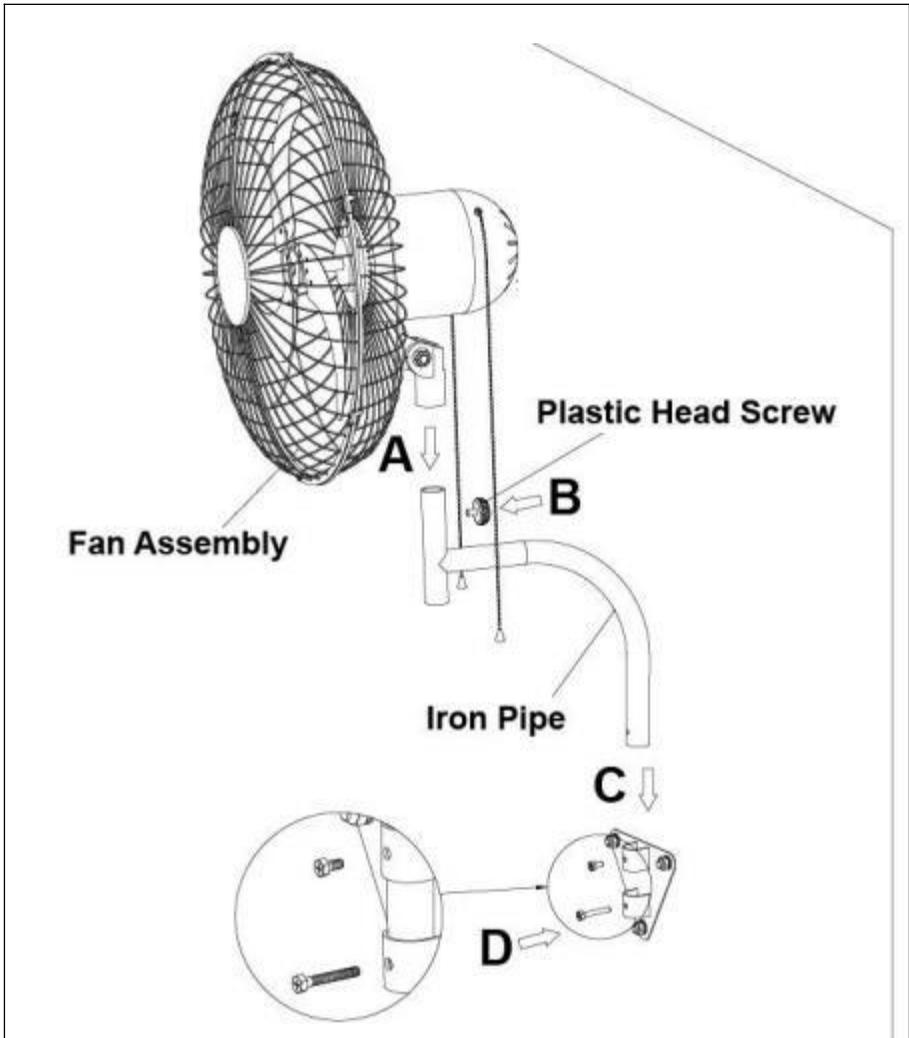

Fig.8.
1). Install the fan head on the Iron pipe, then lock the Plastic Head Screw(9).As shown in Fig.8. - A.B.
2). Install the fan body on the wall panel(2), and then lock the bracket screws1(4) and the bracket screws2 (5). Note, that the screw holes on the bracket should correspond to the screw holes on the wall hanging panel.As shown in Fig8, C.D.